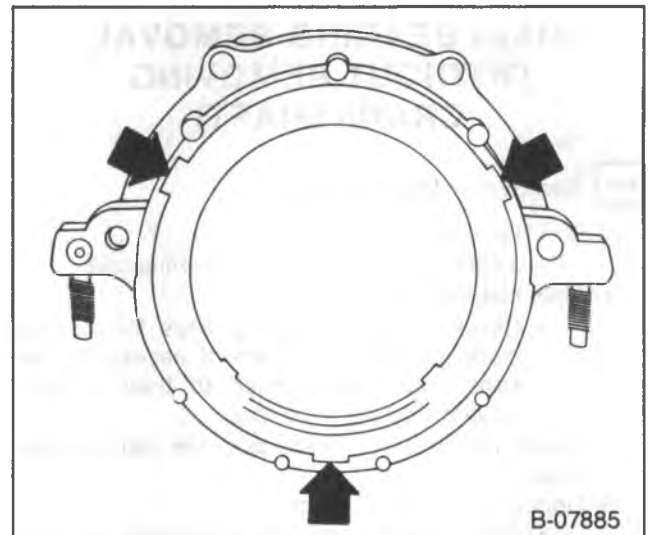

Figure 11—Seal Removal Notches
- Rear crankshaft oil seal. Insert a screwdriver into the notches provided in the seal retainer and pry the seal out (figure 11).